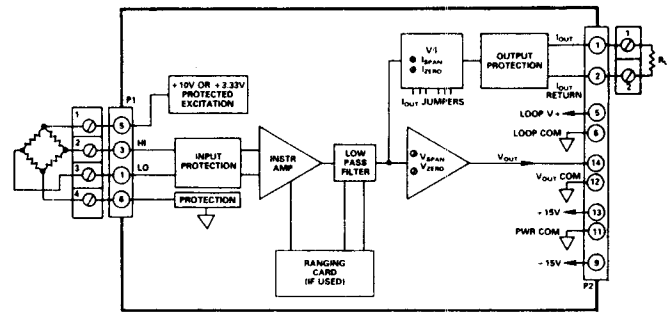

Figure 2.1.7.1 OM3-WBS Functional Block Diagram
1. Connect model OM3-WBS as shown in Figure 2.1.7.1 with $R_L = 250\Omega$.